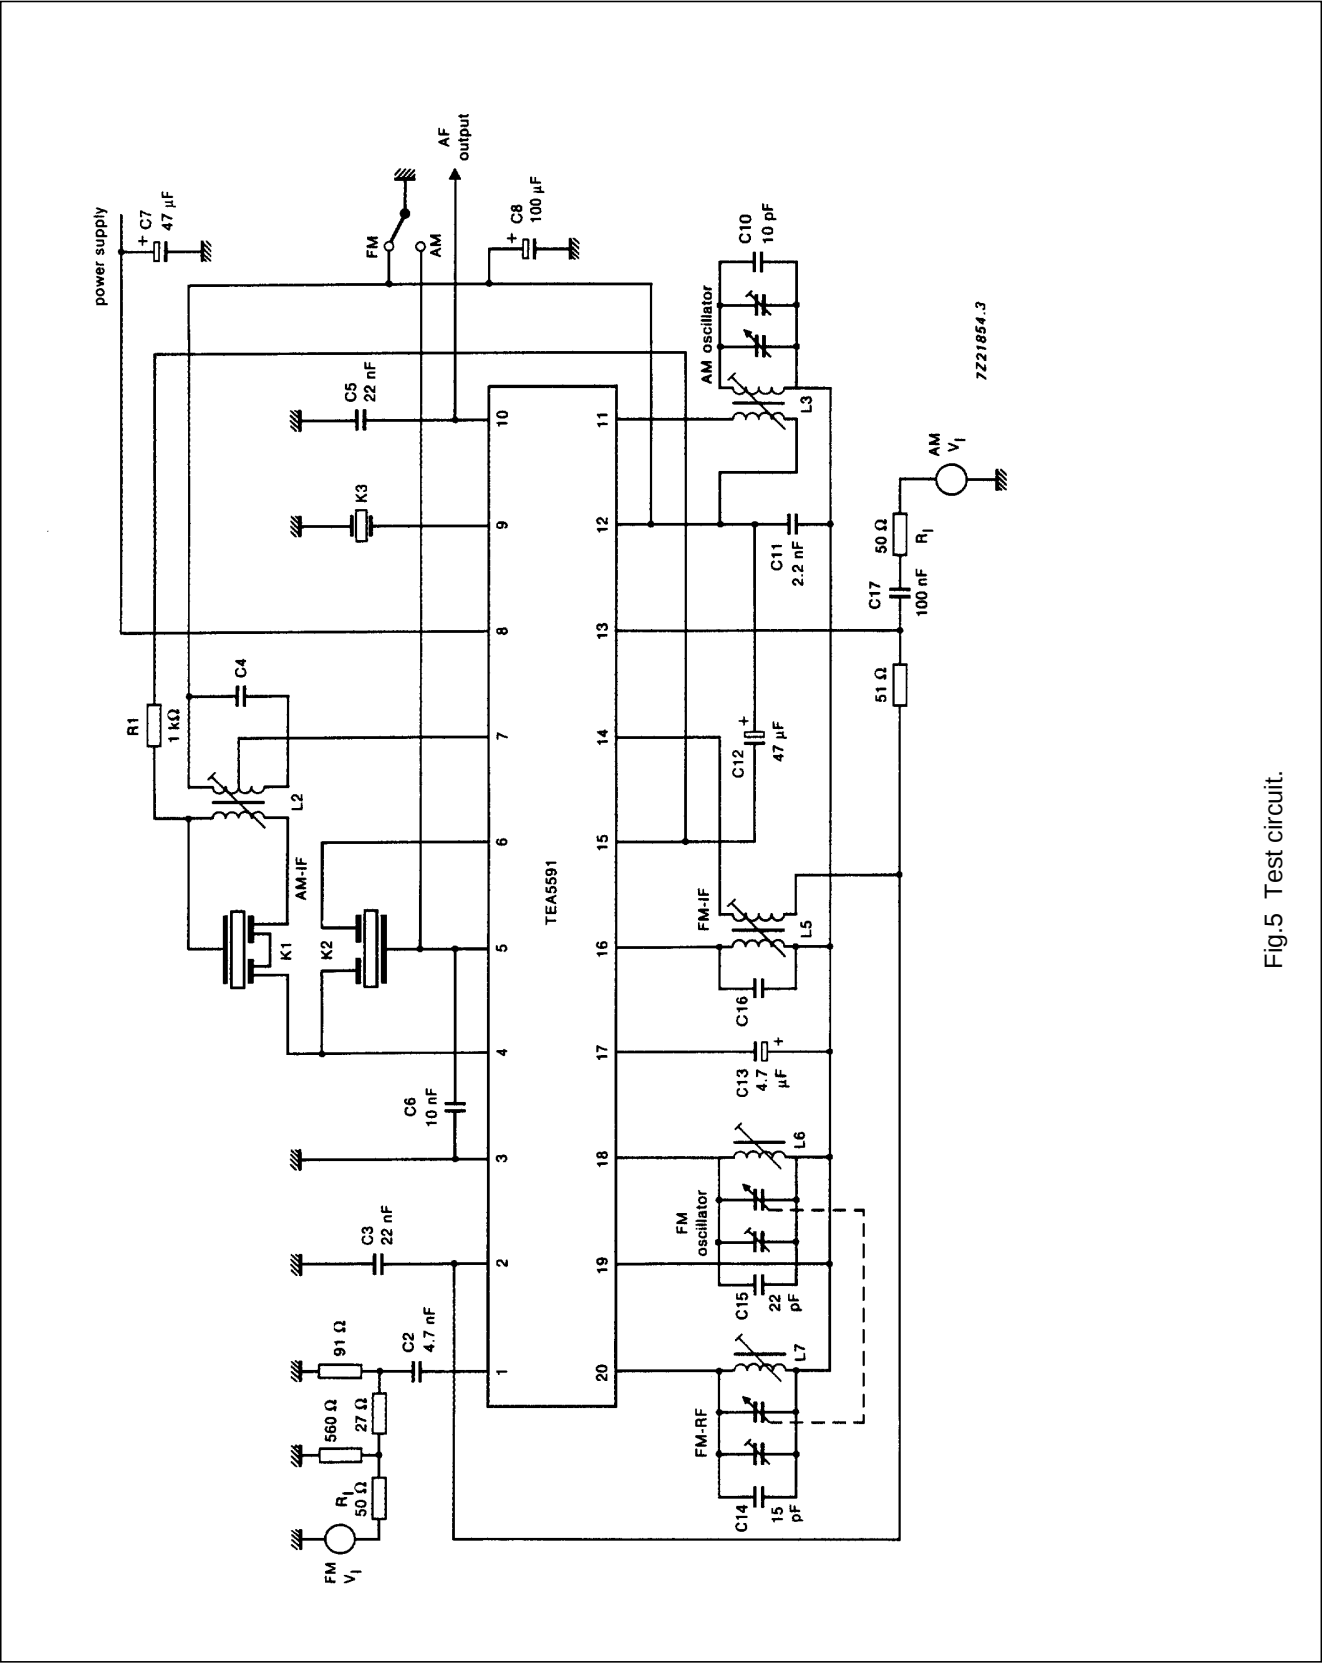

Fig.5 Test circuit.
All parameters are measured in Fig.5 at nominal supply voltage $V_P = 3\text{ V}$; $T_{\text{amb}} = 25\text{ }^{\circ}\text{C}$ unless otherwise specified.
All parameters are measured in Fig.5 at nominal supply voltage $V_P = 3\text{ V}$; $T_{\text{amb}} = 25\text{ }^{\circ}\text{C}$ unless otherwise specified
Fig.17 Signal and noise (V_{OAF}), noise (V_{ON}); reference level 0 dB = 100 mV, and total harmonic distortion (THD) as a function of input voltage (V_i) at pin 13. Measured in test circuit Fig.5. AM AGC is measured at $f_i = \text{MHz}$; $f_{\text{mod}} = 1 \text{ kHz}$; $m = 0.3$. AM distortion is measured at $f_i = 1 \text{ MHz}$; $f_{\text{mod}} = 1 \text{ kHz}$.
Fig.18 Signal and noise (V_{OAF}), noise (V_{ON}); reference level 0 dB = 100 mV; AM suppression (AMS) and total harmonic distortion (THD) as a function of input voltage (V) at pin 1. Measured in test circuit Fig.5 at $f_i = 98 \text{ MHz}$; $f_{\text{mod}} = 1 \text{ kHz}$; $\Delta f = 22.5 \text{ kHz}$. AM suppression is measured at $f_{\text{mod}} = 400 \text{ Hz}$, $m = 0.3$ for AM; $f_{\text{mod}} = 1 \text{ kHz}$, $\Delta f = 75 \text{ kHz}$ for FM.